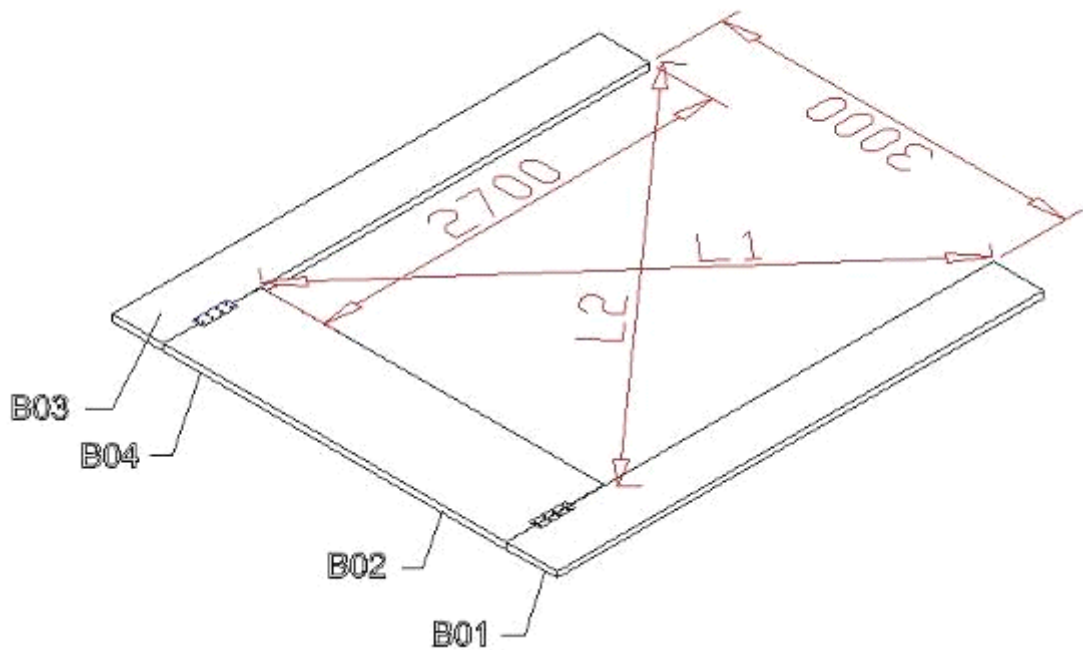

Fig. 3.6
Install the front door frame (shown in Fig.3.6)
- 2) Measure the diagonal of the length and width, when they are suitable for the demand of the door frame size (shown in Fig.3.6), $L1=L2$, fix the door frame with appoint connect board (B04). Pay attention to that check the sizes of the door frame after fixing.